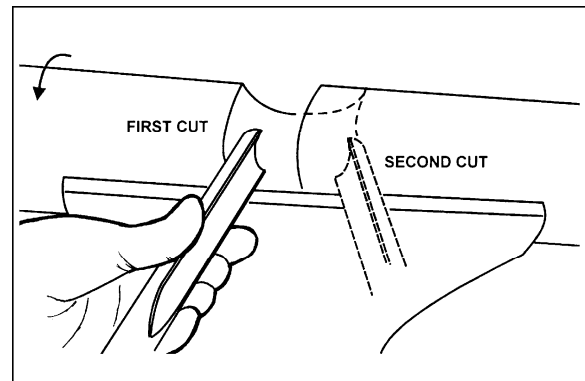

Figure 9-7
1. Use a spindle gouge. With the flute of the tool at 90 degrees to the workpiece, touch the point of the tool to the workpiece and roll in towards the bottom of the cove. See Figure 9-7. **Stop at the bottom; attempting to go up the opposite side may cause the tool to catch.**